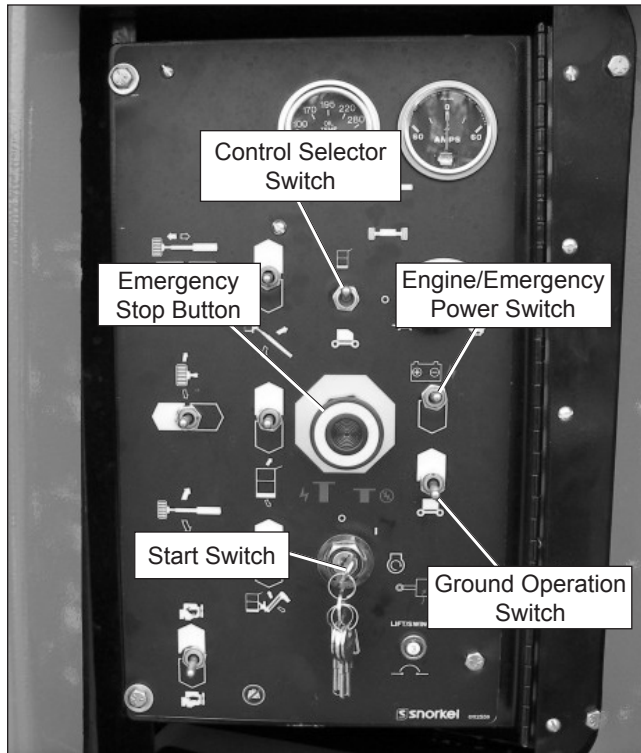

Figure 8.2 – Lower Controls
Use the following procedure to operate boom, turntable, or platform functions using the lower controls. Refer to Figure 8.2.
3. Pull the emergency stop button (refer to Figure 8.2) outward and place the control selector switch in the lower control position.